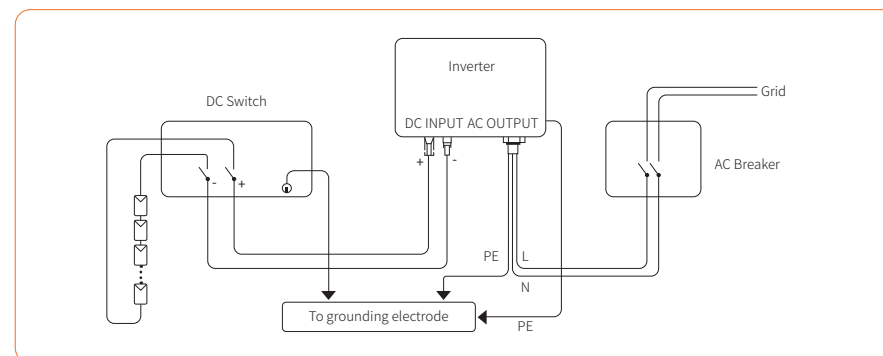

Figure 4-15
① Local standards or codes may require that PV systems are fitted with an external DC switch on the DC side. The DC switch must be able to safely disconnect the open-circuit voltage of the PV array plus a safety reserve of 20%. Install a DC switch to each PV string to isolate the DC side of the inverter.
② External DC switch shall be fitted for input connection of the PV panels in final installation. The DC switch has to be certified by AS 60947.3 and relevant regulations. The Max. current of the DC switch matched by STS-3K~6KTL-NS inverter is no less than 30A. We recommend the following electrical connection, as shown in Figure 4-15: